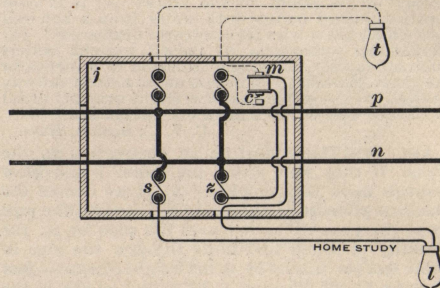

FIG. 1.
(28) I have one 80-volt lamp taking 0.8 ampere, connected up as shown by the full lines in Fig. 1, p and n being the mains, j a junction-box, and s z being the branch-circuit to the lamp t . I wish to know how to wire up another lamp l in the next room, so that it will light up when the first lamp t burns out, or either one of the fuses s or z blow; but I do not wish the lamp l to burn when the lamp t is all right. The wires should all be lead from the junction-box j , which is water-tight. R. C., Eastport, Md.
ANS.—The object may be accomplished by putting an electro-magnet m , as shown in Fig. 1, in circuit